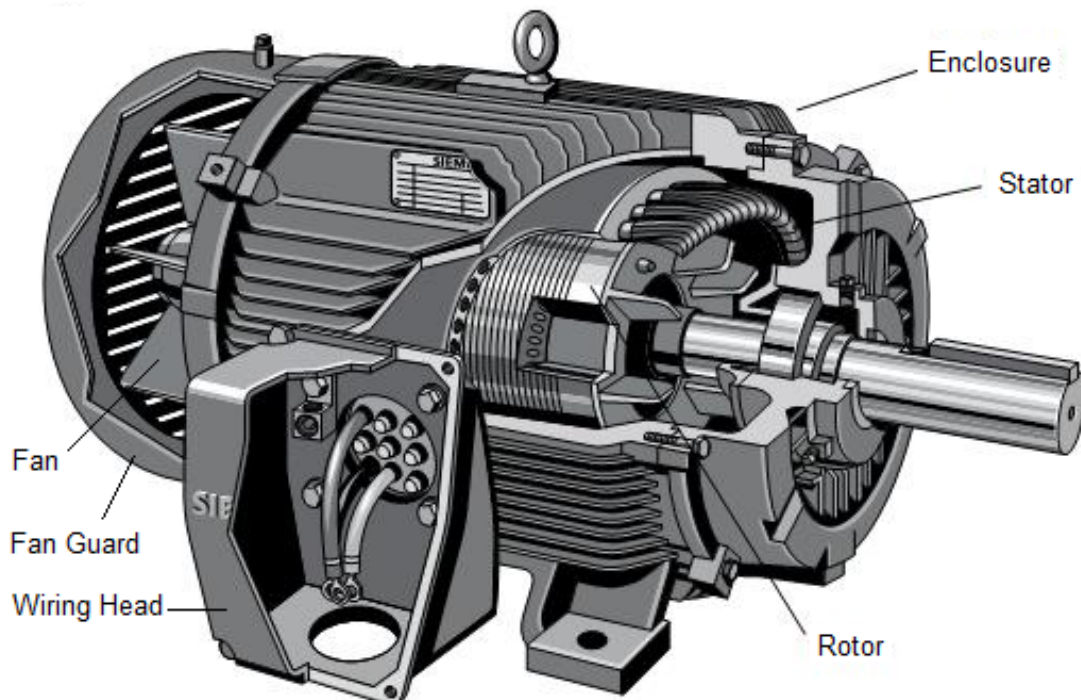

Figure 551-88L-3063_01
1. Demonstrate troubleshooting procedures for a motor that fails to start upon initial installation, (refer to Figure 551-88L-3063_01).